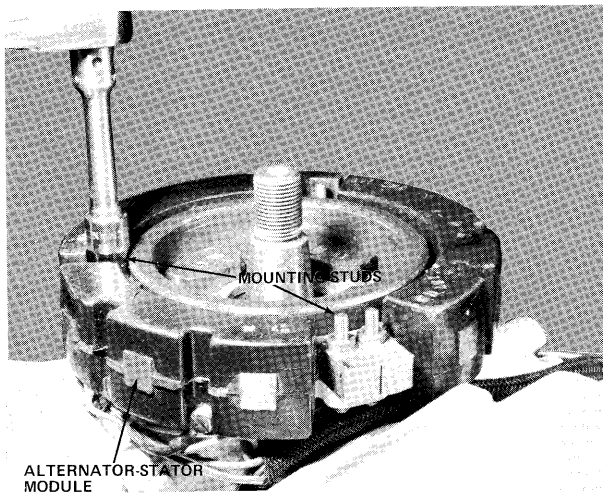

Figure 17 - Removing Alternator Stator Module
- C. Remove two (2) screws and lockwashers securing lead wires to alternator stator module.
- E. Remove two (2) studs securing alternator stator module to bearing cage and remove same from engine. See figure 17.